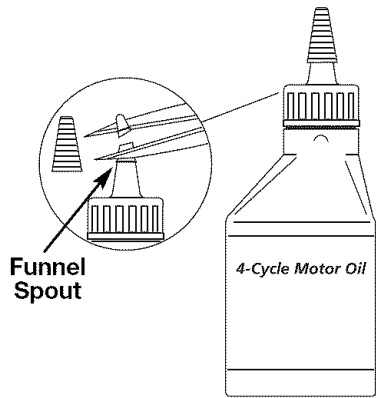

Fig. 7
Your unit is supplied with one 3.04 fluid oz. (90 ml.) bottle of SAE 30 SF, SG, SH oil (Fig. 7).
1. Unscrew the top of the bottle of oil and remove the paper seal covering the opening. Replace the top. Next, cut the tip off the funnel spout (Fig. 7).